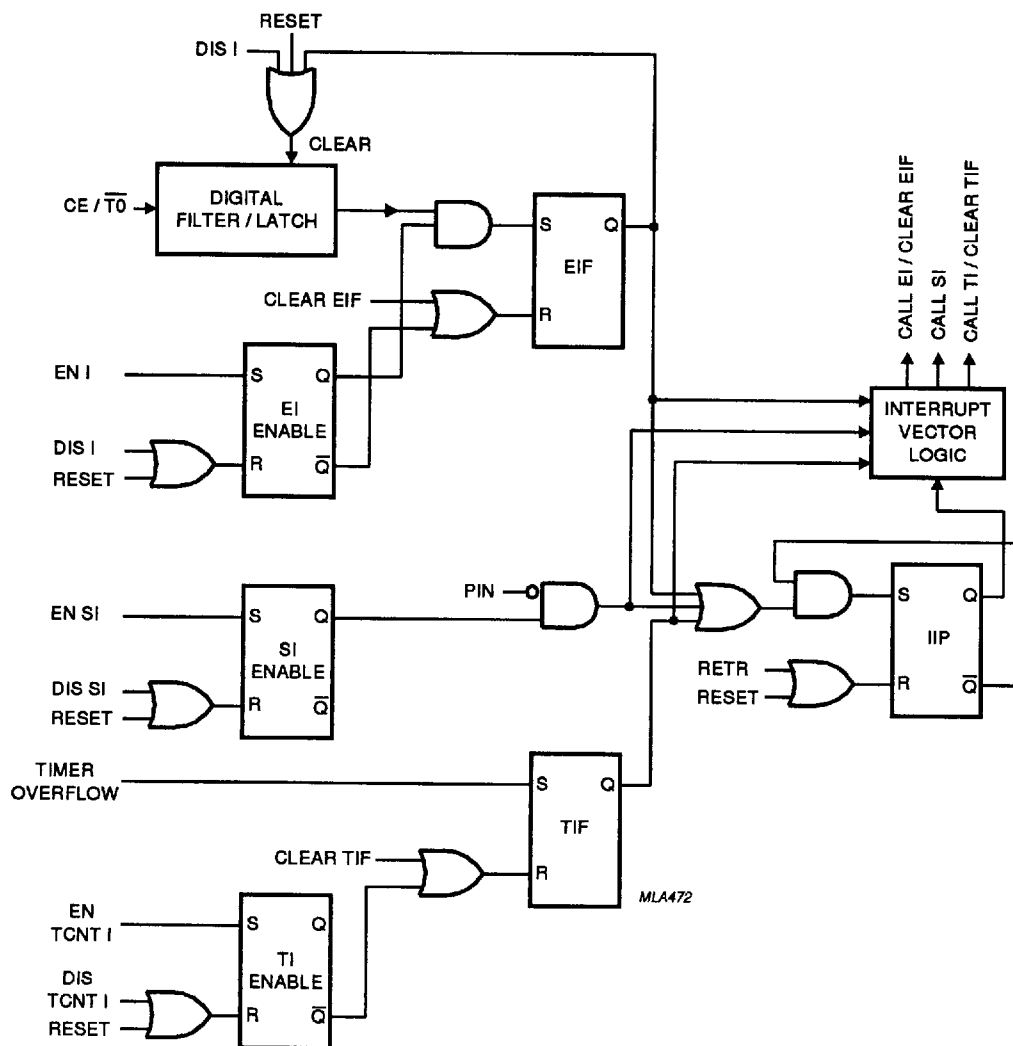

Fig.7 Simplified interrupt logic schematic (the R input overrules the S input for all flags).
An interrupt request is only sensed if the corresponding enable flag is set (see Fig.7). When the request is honoured, the contents of the Program Counter and bits 4, 6 and 7 of the Program Status Word are saved on the Program Counter stack. The Program Counter is loaded with the appropriate interrupt vector, thereby indicating the beginning of the interrupt routine. Since the Accumulator is not automatically saved, it must be saved and restored by user software. The interrupt routine must be terminated by the RETR (return and restore) instruction. At least one instruction of the main program will then be executed before another interrupt routine is entered.
- Subroutines and nested subroutines called from the interrupt routine must all end with RET since RETR clears the Interrupt In Progress flag (IIP), as a side-effect (see Figs 7 and 8). Further pending interrupts would then interfere with the interrupt routine in progress.
A LOW-to-HIGH transition on the $\overline{CE/T0}$ pin is latched in the digital filter/latch if the HIGH state exceeds 7 clock periods after a LOW state of more than 4 clock periods. If the external interrupt is enabled the External Interrupt Flag (EIF) is also asserted, thus constituting a valid external interrupt request. As soon as the IIP is clear, indicating that no interrupt routine is in progress, the external interrupt is invoked by a forced CALL to location 3. The EIF is simultaneously cleared (see Figs 7 and 8). The interrupt routine may acknowledge the interrupt via port lines. Execution of a DIS I (disable external interrupt) instruction cancels a stored interrupt request by clearing both the digital filter/latch and the EIF.
If the timer/event counter interrupt is enabled, a timer/event counter 1 overflow sets the Timer Interrupt Flag (TIF). As soon as IIP is clear, meaning that no interrupt routine is in progress, the timer/event counter interrupt routine is invoked by a forced CALL to program memory location 7. The TIF is simultaneously cleared (see Figs 7 and 8). Execution of a DIS TCNT1 (disable timer/event counter interrupt) instruction cancels a stored interrupt request by clearing TIF.